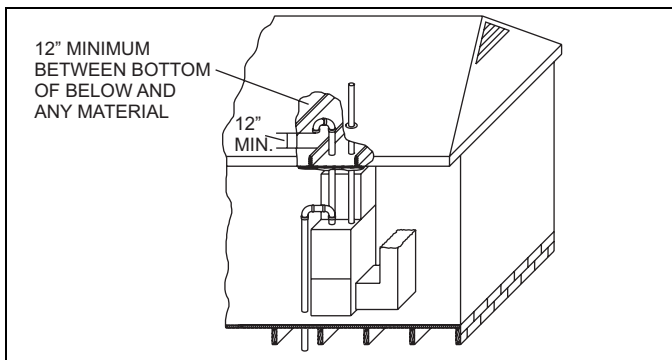

FIGURE 22: Attic and Crawl Space Combustion Air Termination
3. **VENTILATED COMBUSTION AIR:** Combustion air is supplied through a PVC or ABS pipe that is connected to the PVC coupling attached to the burner box and is terminated in a ventilated attic or crawl space. The combustion air and the vent pipes are not terminated in the same atmospheric zone. Refer to Figure 22 for attic and crawl space termination. Only the combustion air intake may terminate in the attic. The vent must terminate outside.
Refer to Figure 22 for required attic termination for the combustion air intake pipe. For attic termination, use two 90 elbows with the open end in a downward position. Be sure to maintain 12" (30 cm) clearance above any insulation, flooring or other material.